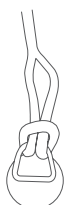

Fig 23 -
3. Pull all the of the remaining Dock Line through the spliced loop until it is tight (Fig 23).